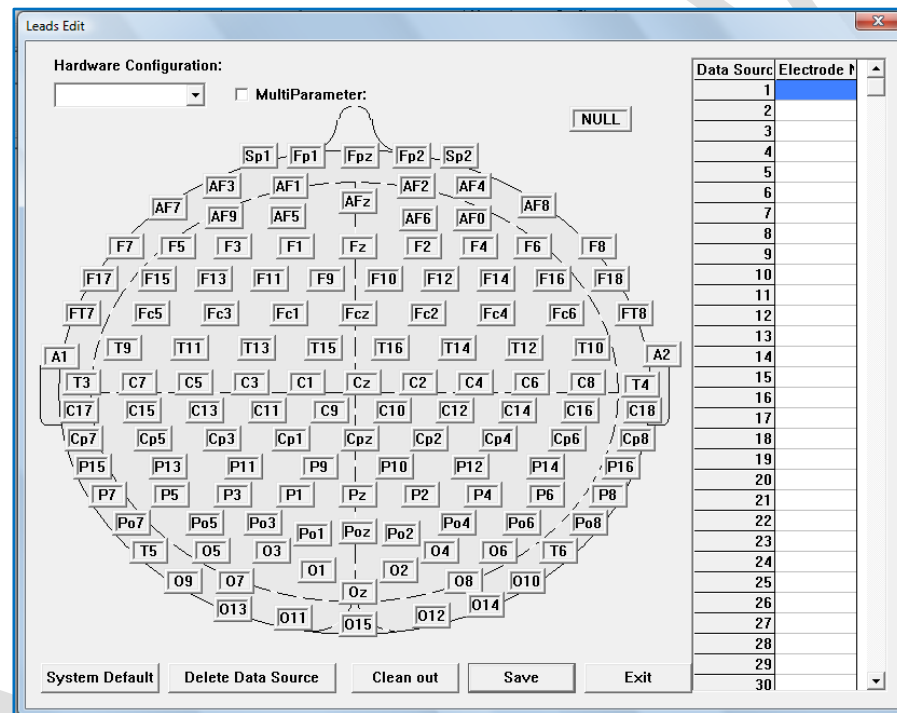

Fig 2-6 Hardware Configuration
- 2 Click on "**Hardware Configuration**" button to enter interface of data source addition as shown in Fig 2-6.